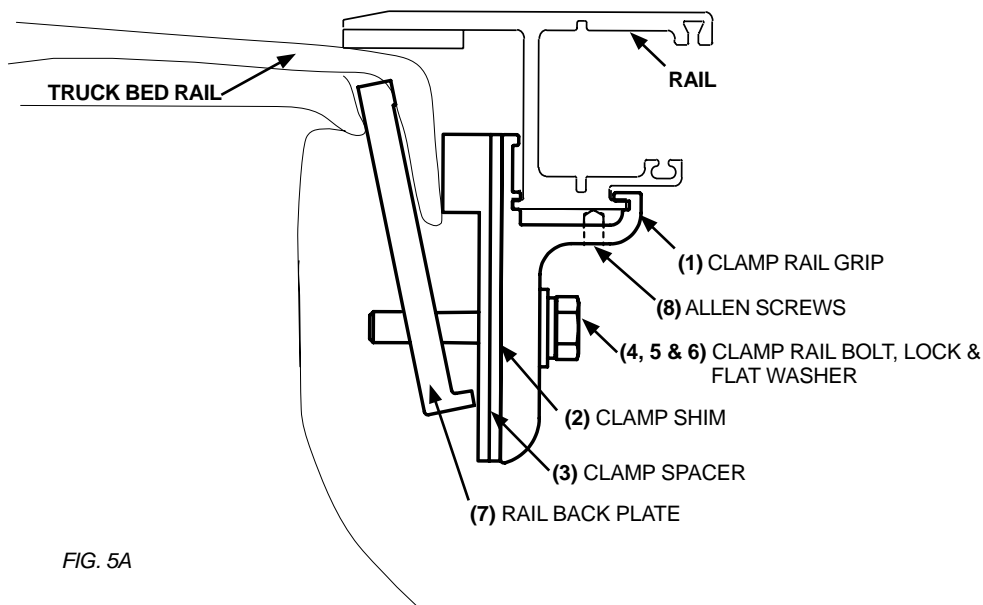

FIG. 5A
Place the 4 allen screws (8) in the clamp rail grips as indicated in Figure 5a and tighten them.
Place the 4 Allen Screws (8) in the clamp rail grips as indicated in Figure 5a and tighten them.